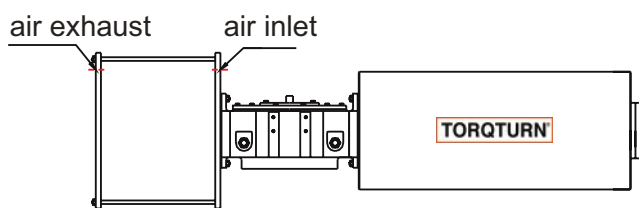

Figure 1 - Spring Return AGP Pneumatic Actuator
- e. Pneumatic (air) supply inlet positions are as per Figures 1 & 2 below.